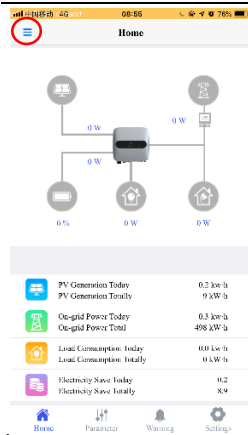

Figure 4-13
1. Open "Sun Mate" APP, tap the button on the top left of screen, enter APP sidebar (Figure 4-13).